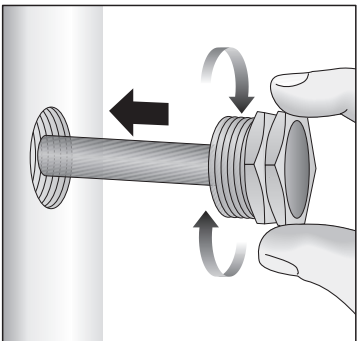
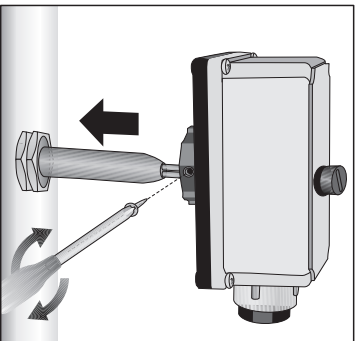

fig.3 - ELK.3
fig.4 - ELK.4
A) Vedere fig.3 e fig.4
A) See fig.3 and fig.4